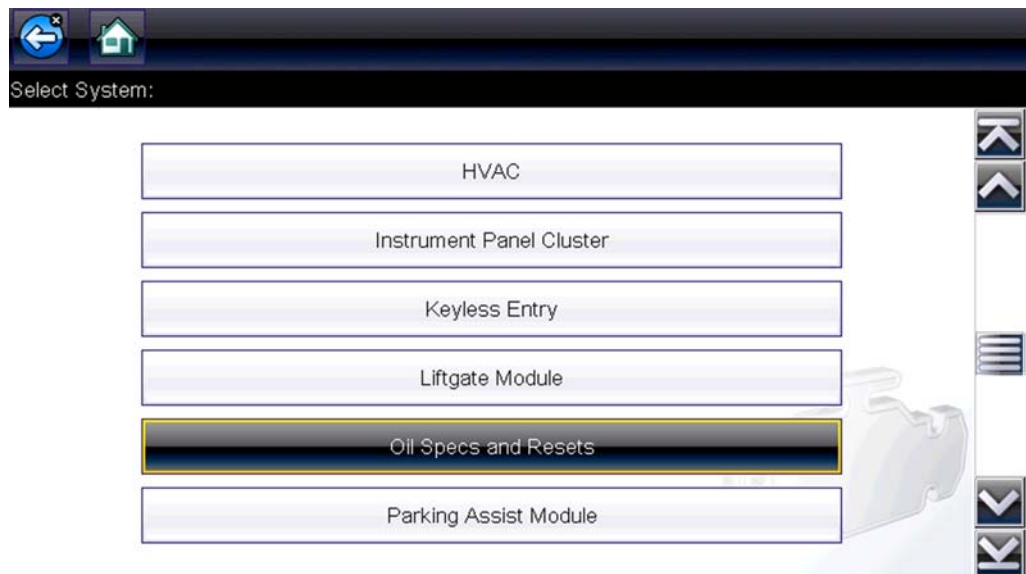

Figure 6-2 Scanner System Menu - Oil Specs and Resets Option
- **From within a current Scanner session** - select **Oil Specs and Resets** from the System menu (Figure 6-2), then proceed to Step 3 below.